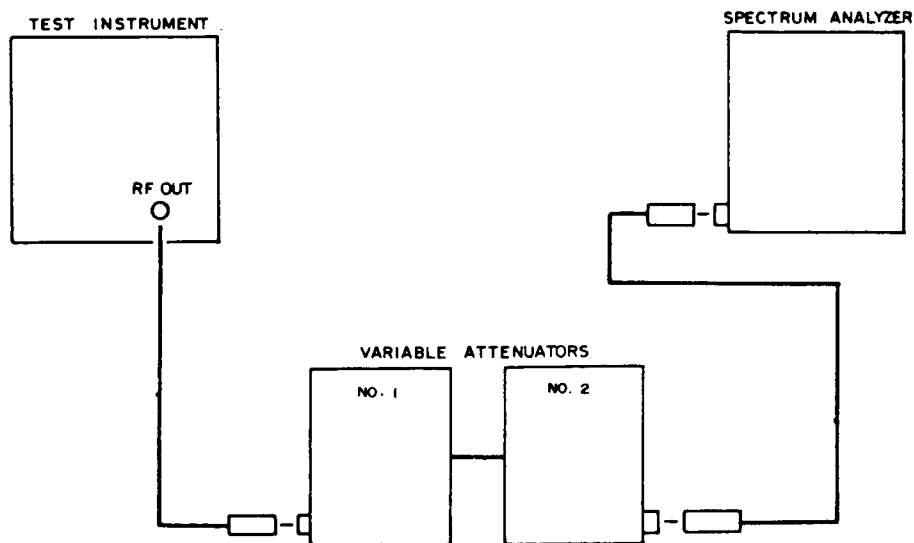

Figure 4. Attenuator accuracy - equipment setup.
- (1) Connect equipment as shown in figure 4.